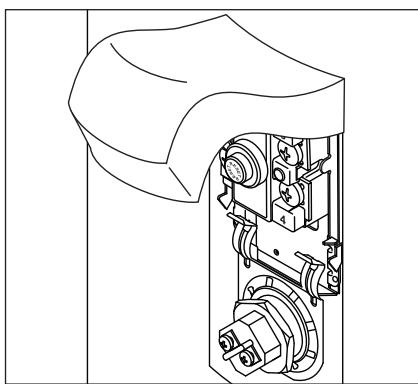

Figure 46 - Element Access Panel/ECO Compartment.
- 2** Remove the upper access panel on the water heater and carefully fold back the insulation and plastic element/ECO cover (Figure 46).